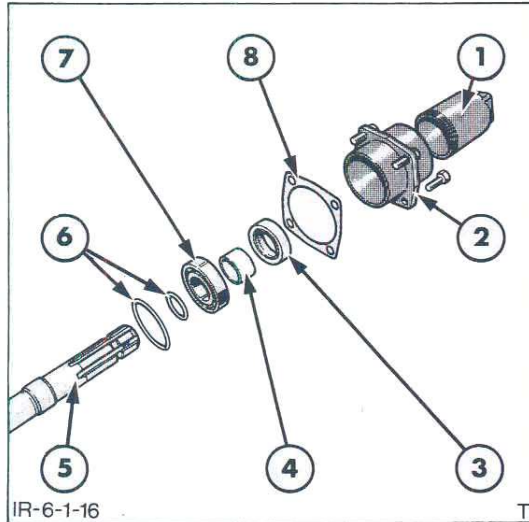

Figure 16
With reference to Figure 16.
4. Remove the snap ring retaining the shaft and bearing assembly in the cover, Figure 16.